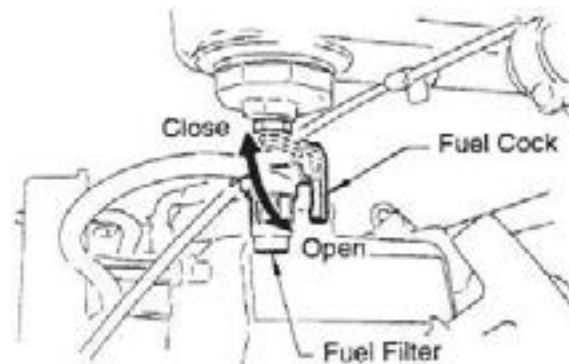

Fig 5
1. Open the fuel shut-off valve by shifting the fuel cock lever to the OPEN position (Fig 5), then adjust the engine start/stop switch to the START position.
2. Close the fuel shut-off valve by shifting the fuel cock lever to the CLOSED position. Refer to Fig 5.